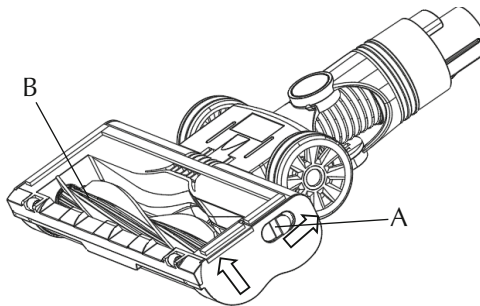

Fig. 9
- 1) On the side of the floor brush (13) you find a switch to release the brush (A). Slide the switch upwards to eject the roller brush (B) (see Fig. 9). Remove the roller brush (B) to clean it. Remove all dirt (hair and other fibres) that has got wrapped around the roller.
- 3) Put the roller brush (B) back into the floor brush (13).